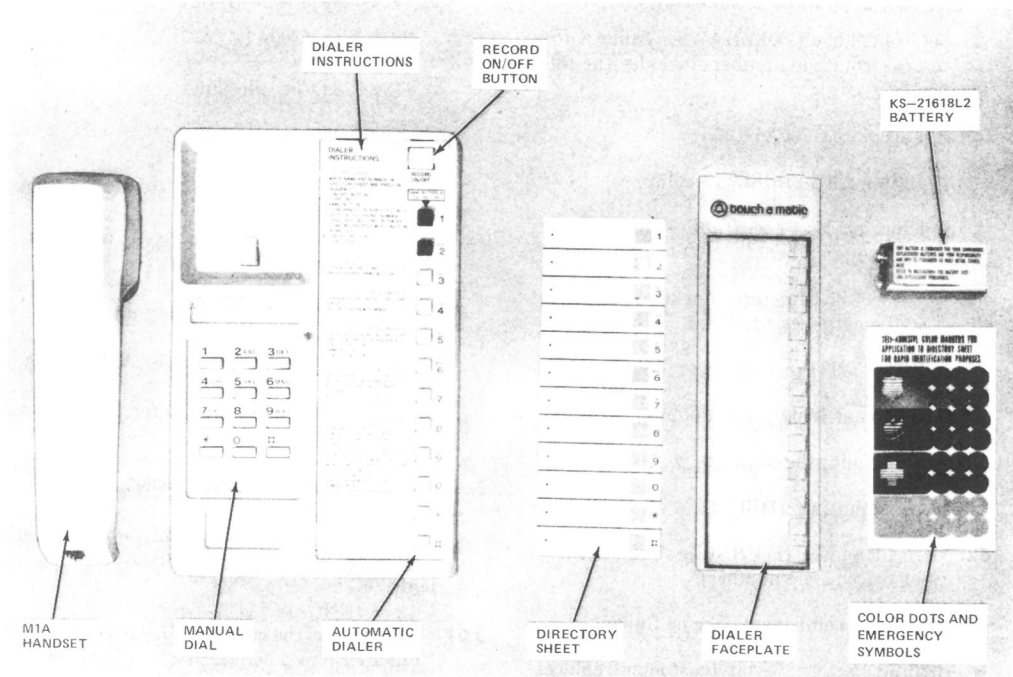

Fig. 2—5001T01A Telephone Set With Handset, Dialer Faceplate, Directory Sheet, and Battery, Removed
- Show 5001T01A-51 and 5001T01A-58 manufacture discontinued (MD) (Table A)
- Add emergency symbols (Fig. 2).
(1) Remove the dialer faceplate by inserting fingernail into slot at top of faceplate, pull down slightly, and lift out.
(2) Remove the directory sheet and write or type the desired name(s) and telephone number(s).
(3) Momentarily depress the RECORD ON/OFF button (Fig. 2). (A constant tone will be heard.)
(4) Momentarily depress the memory button adjacent to the desired name listed on the directory sheet. (A double interrupt of the tone will be heard.)
(5) Manually dial the desired number using the digit designations to the right of the memory buttons on the dialer. (The tone will interrupt momentarily as each digit is recorded.) The manual dial key pad **cannot** be used to record a number into memory. A total of 16 digits can be recorded. When the sixteenth digit is recorded, the dialer will beep three (3) times and automatically end the recording procedure. If the dialer is inadvertently left in the record mode it will time out after 1-1/2 minutes, give three (3) beeps, and automatically reset.
(6) Momentarily depress the RECORD ON/OFF BUTTON. [The tone will cease and the dialer will be ready either for automatic dialing or to record another telephone number into memory. Repeat Steps (3) through (6)].
(7) Replace the faceplate after all numbers have been recorded.